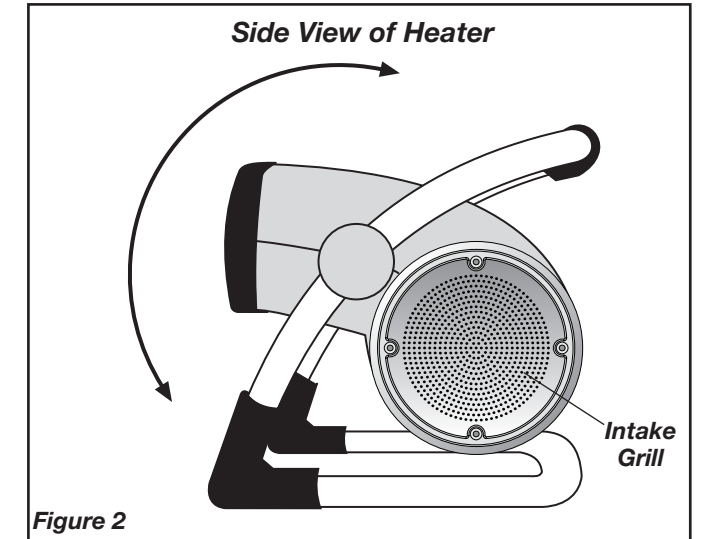

Figure 2
7. Move the **Power Knob** to the desired heat setting. High Heat (1500W) is represented by the (II) and Low Heat by the (I).
8. For Fan Only operation, turn the **Power Knob** to (F).
9. To adjust the angle of the Heater air flow, rotate the Heater body forward or backward to the desired position. (Figure 2)
11. To disconnect Heater, turn **Power Knob** to the "OFF" position (0), then remove plug from outlet.
### THERMOSTAT INSTRUCTIONS (Figure 2)